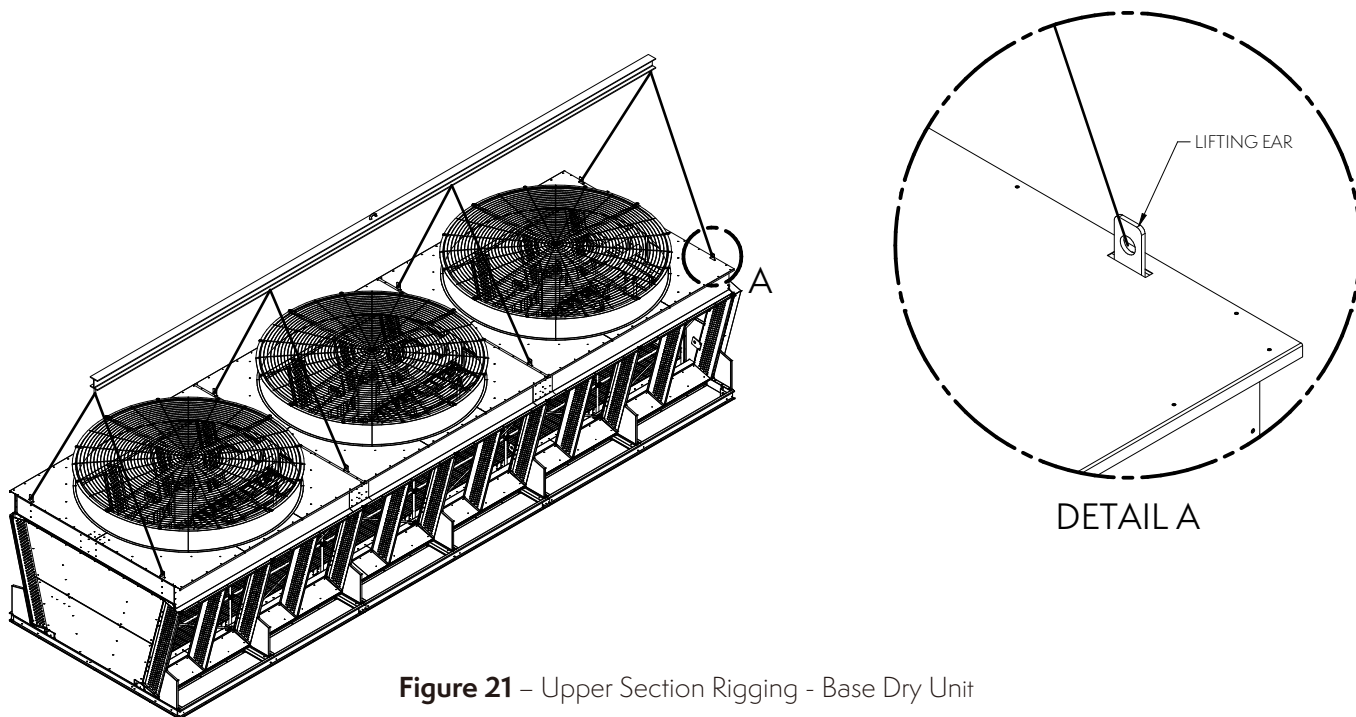

Figure 21 – Upper Section Rigging - Base Dry Unit
1. Use lifting ears on top of the upper section as shown in Figure 21. An adjustable/spreader lifting beam is required to be used along the entire unit length. Refer to factory submittal for section weights.